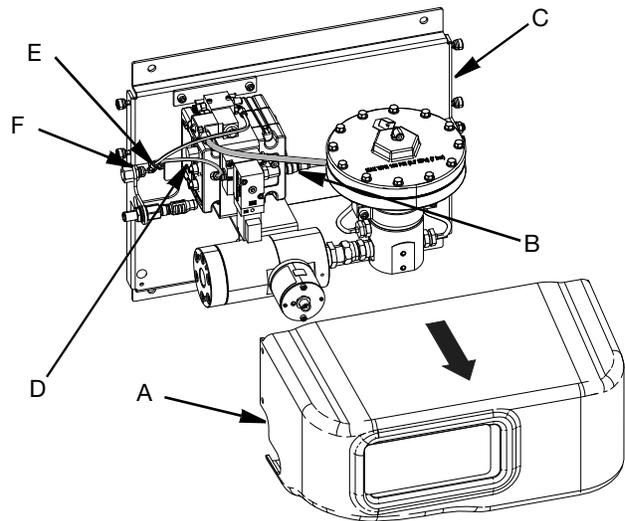

FIG. 8
1. Remove the PCF cover (A).
2. Disconnect the dispense valve air solenoid cable from FCM port 1(B). Secure the loose end of the cable to the PCF fluid mounting plate (C).
3. Disconnect the regulator air line (D) from the incoming air wye fitting (E).
4. Disconnect the incoming air wye fitting (D) from the incoming air elbow fitting (F). Secure the incoming air wye fitting to the PCF fluid mounting plate (C). See FIG. 8.